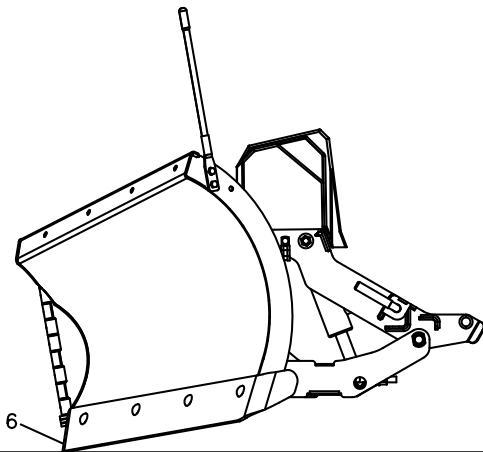

Figure 11. Remove Blade Adjustment Shims G10898
**Note:** If the front most edges of the Blade Half Cutting Edges (6) (nearest the blade hinge) touch the ground and the rear most edges (furthest from the blade hinge) do not touch the ground (see Figure 11), Blade Adjustment Shims (50) must be removed from behind the Bumper Stop (49A) until the Blade Half Cutting Edges (6) lay flat against the ground from end to end. If the opposite situation is observed where the rear most edges (furthest from the blade hinge) touch the ground and the front most edges (nearest the blade hinge) do not touch the ground (see Figure 12), Blade Adjustment Shims (50) must be added behind the Bumper Stop (49A) until the Blade Half Cutting Edges lay flat against the ground from end to end.